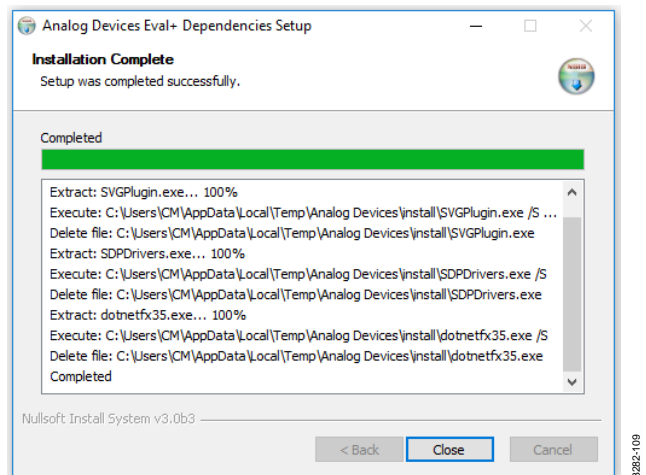

Figure 9. Completing the Drivers Setup Wizard
4. To complete the **SDP-B** drivers installation and close the installation setup wizard, click **Close** (see Figure 9).